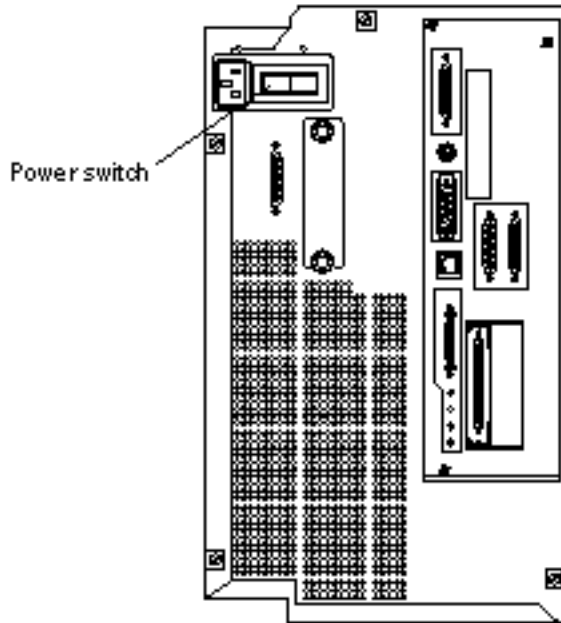

Figure 1-10 Powering On the Netra 150 Server
1. Turn the power switch at the rear of the Netra 150 server to the ON (|) position (Figure 1-10).